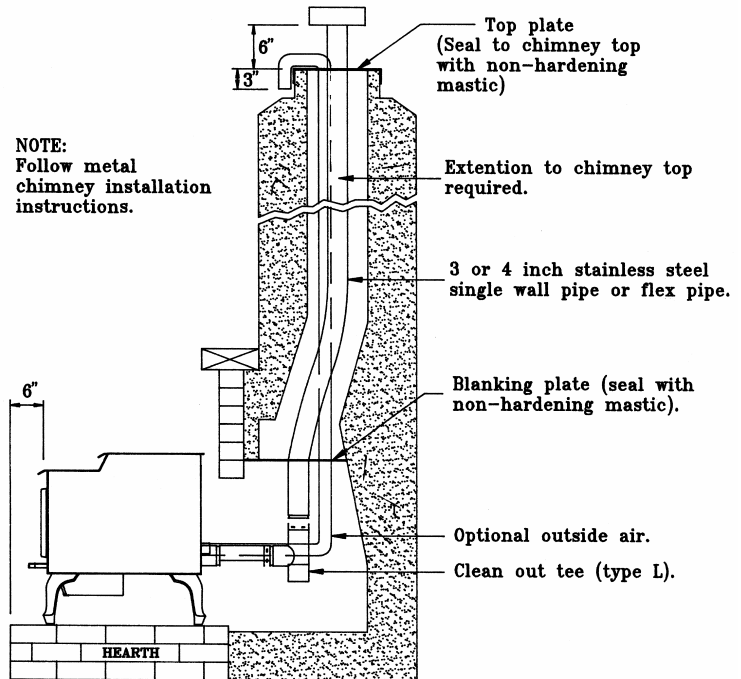

FIGURE 12
3. Install a blanking plate and the chimney pipe, and if used the outside air pipe, as shown in Figure 12.